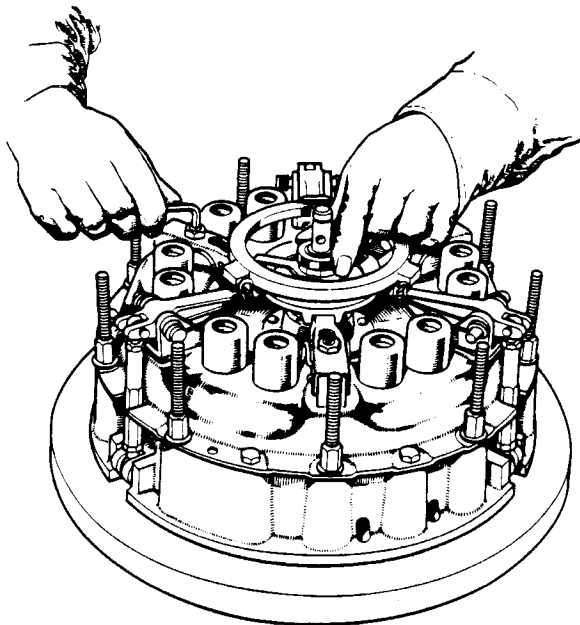

Figure 27.
8. Remove actuator and screw centre pillar firmly into adaptor. Place a spacer, Code 16X (some early spacers were marked "Code 16" only), on centre pillar—recess in spacer towards adaptor. Fit short setting finger on centre pillar and set adjusting screws on transmission levers so that when finger is rotated, whilst being held firmly and squarely against spacer, it just touches lever plate all the way round. (Fig. 27.) When the levers are correctly set, hold screws stationary and firmly tighten locknuts.